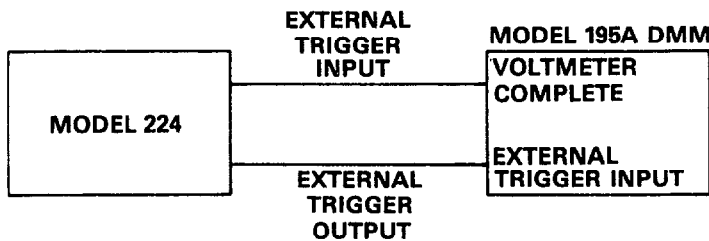

Figure 2-6. External Trigger Connections
1. Connect the Model 224's EXTERNAL TRIGGER INPUT connector to the Model 195A's VOLTMETER COMPLETE (trigger out) connector. Connect the Model 224's EXTERNAL TRIGGER OUTPUT to the Model 195A's EXTERNAL TRIGGER INPUT. Refer to Figure 2-6 for a block diagram.